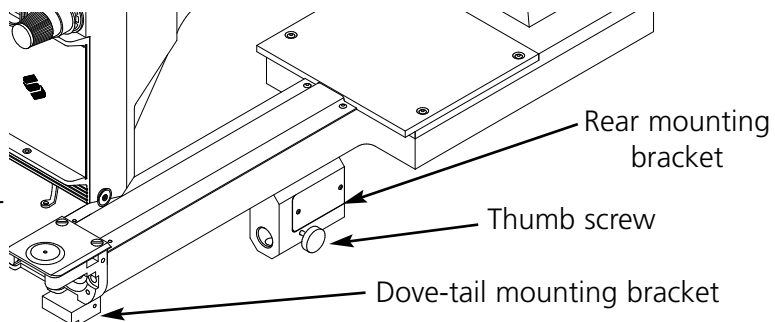

Figure 3-9
5. Install the driver; guide the cap driver shaft into the hole in the rear mounting bracket. At the same time, insert the driver dove-tail support bracket into the female dove-tail mounting bracket. Refer to Figure 3-9.